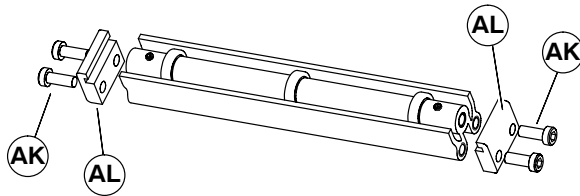

Figure 14
1. Locate return rollers. Exploded view shown in Figure 14.
2. Remove screws (AK of Figure 14) and clips (AL) from roller assembly.